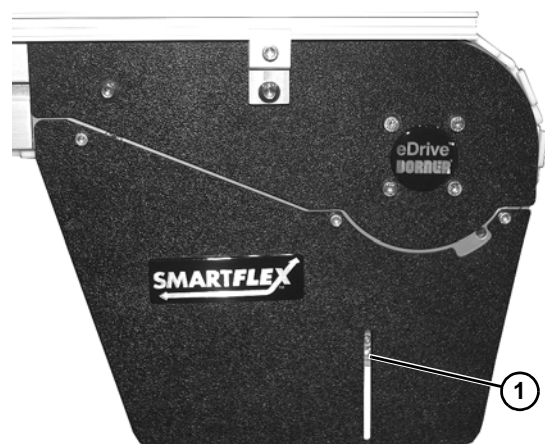

Figure 56
Before inserting belt rod to connect belt ends, be certain that the slack on belt is showing in slotted area (**Figure 56, item 1**) on convey or drive end.